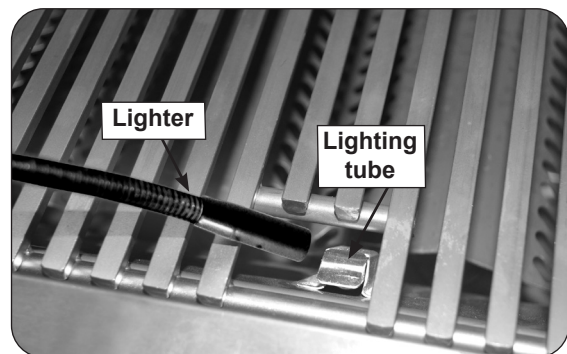

Fig. 25-2 Manual lighting via lighting tube
**CAUTION:** Always wait five (5) minutes for gas to clear after any unsuccessful lighting attempt.
2. Insert either a burning long-barrel butane lighter or a burning long-stem match through the cooking grid opening to the top of the lighting tube (see Fig. 25-2). For backburners, hold the flame against the surface of the backburner. For sideburners, hold the flame against the burner.
4. If the burner does not light within five (5) seconds of turning the control knob, **immediately depress the knob and turn the valve to OFF**. **WAIT FIVE (5) MINUTES** before repeating steps 2 through 4 of the MANUAL LIGHTING instructions.